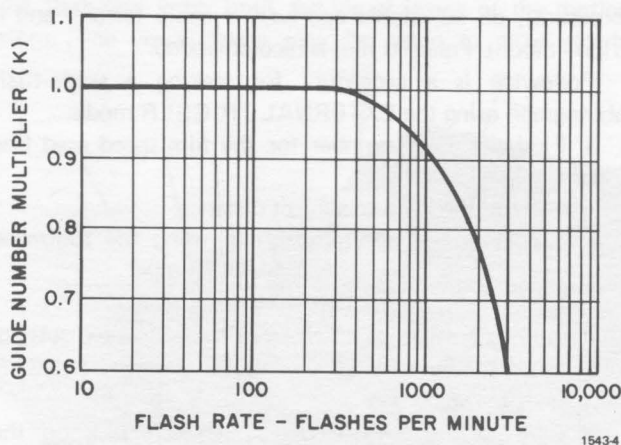

Figure 4. Guide-number correction for repetitive flashing.
- b. Obtain the guide-number multiplier from Figure 4 and multiply it by the guide number.